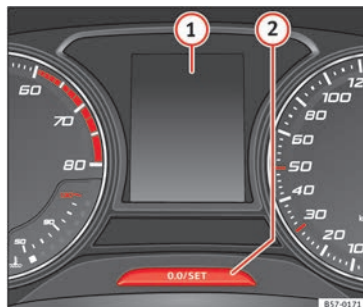

Fig. 48 Instrument panel
The service interval indication appears on the instrument panel display » Fig. 48 ①.
Press and hold the button **0.0/SET** for more than 5 seconds to consult the service message **» Fig. 48 ②**.
- Switch off the ignition, press and hold the button **0.0/SET** **» Fig. 48 ②**.